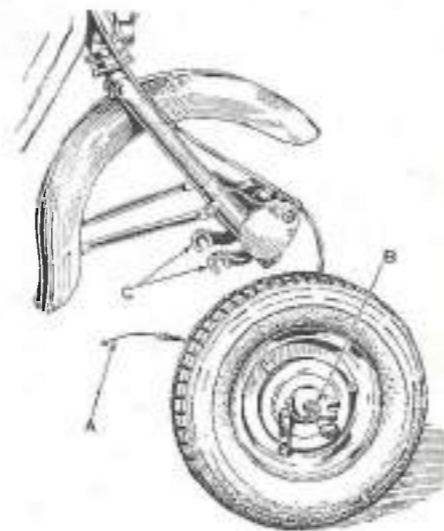
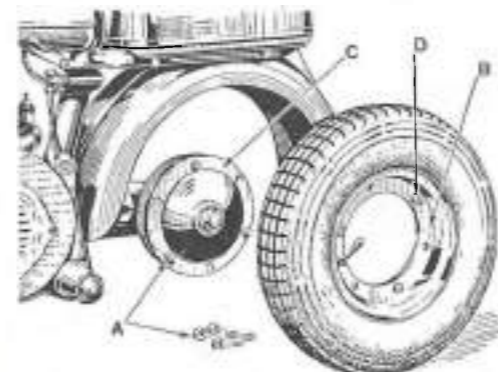
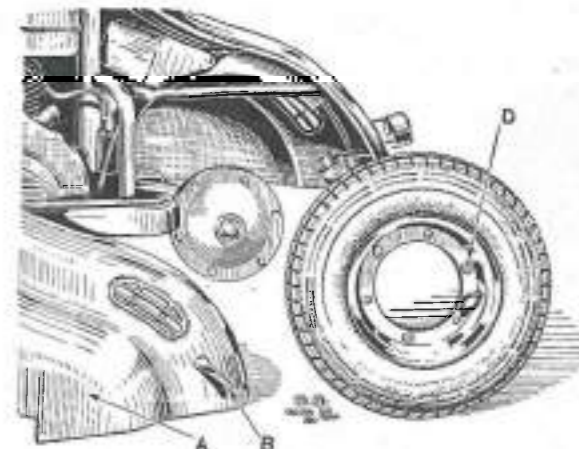

Fig. 7
Fig. 8
Fig. 9
To remove the front wheel, on both models (fig. 7) first disconnect the brake control cable (A), then loosen the two cap nuts (B) fastening the wheel to the trailing links (C); place the washers under the nuts, located within the trailing links. To dismantle the rear wheel on the model d (fig. 8) loosen the three cap nuts (A) fixing the rim (B) to the hub (C); before dismantling the wheel on the model ld (fig. 9) remove the left side panel (A) loosening the fastener (B).